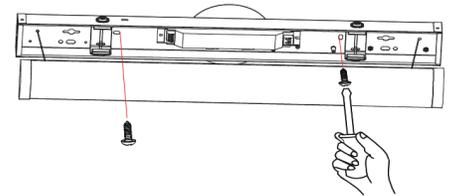

Fig. 15
4. Use a screwdriver to tighten the screws to affix the fixture to the wall (Fig. 15).